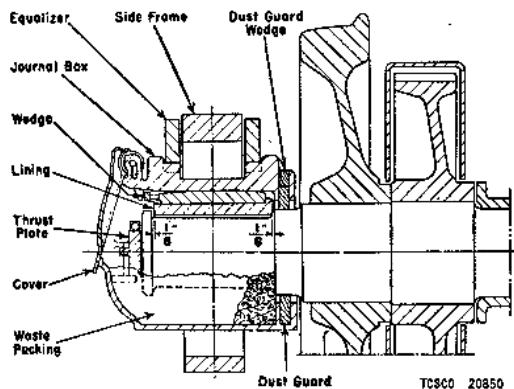

Figure 39. Plain bearing journal box, sectional view.
*a. General.* The bearings in these boxes are plain bearings as shown on figure 39. The cover on the front of each box is hinged at the top and is held down tightly by a